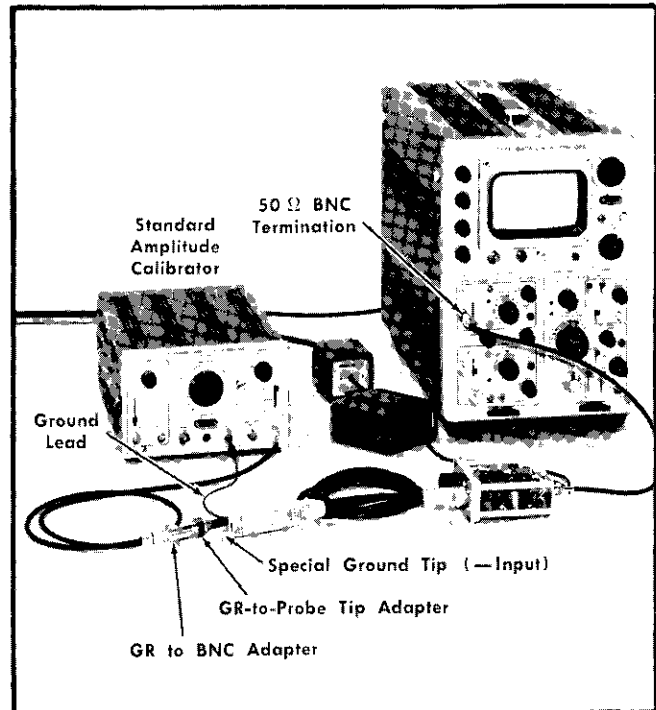

Fig. 6-25. Equipment setup for GAIN adjustment, step 5.
- a. The preliminary control settings apply. The equipment setup appears in Fig. 6-25.
- c. Remove a special ground tip from the Probe + Input tip. Connect the ground lead (item 21) from the Probe ground lug to the chassis of the Standard Amplitude Calibrator (item 4).